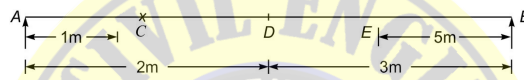

Fig. Q. 79
79. In the simply supported beam shown in Fig. Q. 79 when 10 kN moving load moves from left to right, match list I with list II